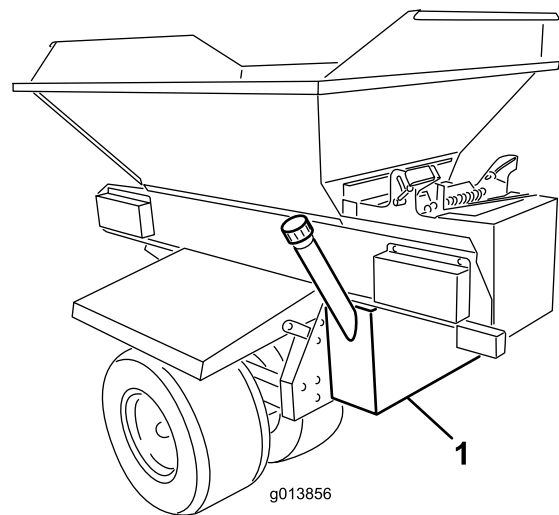

Figure 1
6. Support the hydraulic tank from underneath and position the tank against the chassis rear wall. The tank should be centered evenly from left to right and should be positioned vertically (Figure 1).